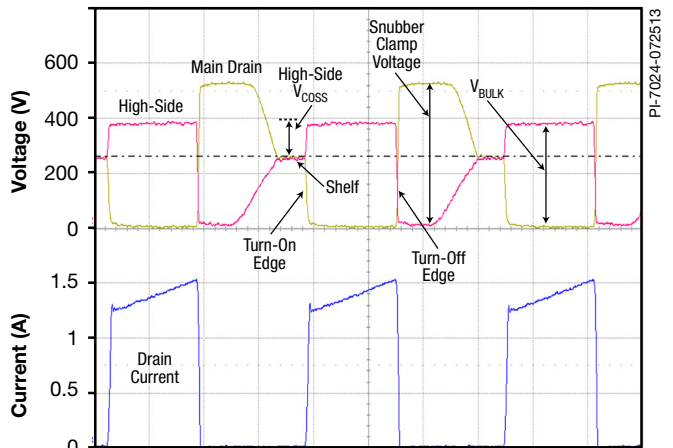

Figure 28. Typical Full Load Waveforms of the Main Drain. High-Side MOSFET Source, and Drain Current.
Repeat the measurements at full load. Be cautious of over-heating the power supply and use a strong fan. Measure the source voltage (HS) of the high-side MOSFET at turn-on for each steady-state switch cycle (Figure 28). It should be < 40% of the bulk voltage. Calculate and verify the  $K_p$  from the current waveform and verify with the spreadsheet. Also check the peak current at peak load – do not dwell at peak load for more than several seconds to prevent over-heating.